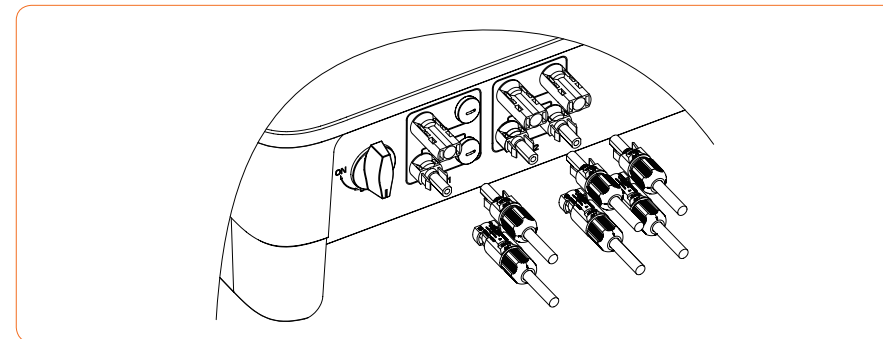

Figure 4-18
② Use a multimeter to measure the voltage of the DC input string, verify the polarity of the DC input cable, and ensure that each string voltage is within 600V.
3. Insert the positive and negative connectors into the inverter DC input terminals respectively, a click sound should be heard if the terminals are well connected, as shown in Figure 4-18: